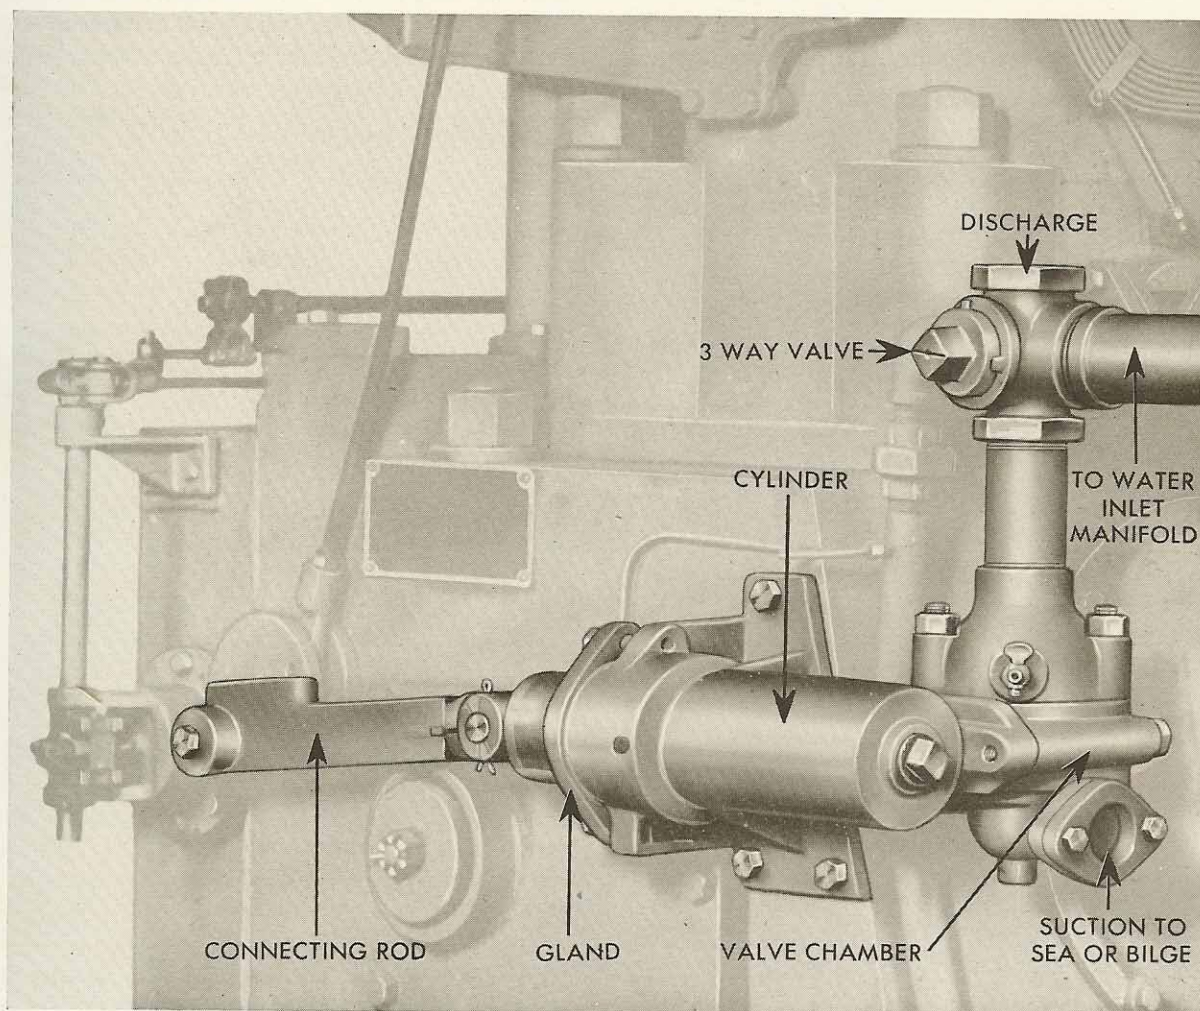

FIGURE 3-12
35. BILGE PUMP: The pump shown in Figure 3-12 is a single acting reciprocating pump driven by an extension of the forward end of the camshaft. It operates on the same principle as the circulating pump on a raw-water cooled engine. The packing gland is on the end of the pump cylinder and the piston moves in and out of the packing. As the pump operates all the time the engine is running, it is usually connected to the bilge lines so that the bilge is kept dry. For emergency bilge service there usually is a large auxiliary pump driven by the auxiliary engine. How the bilge pump can be used as an auxiliary to the cooling system was described in paragraph 11.